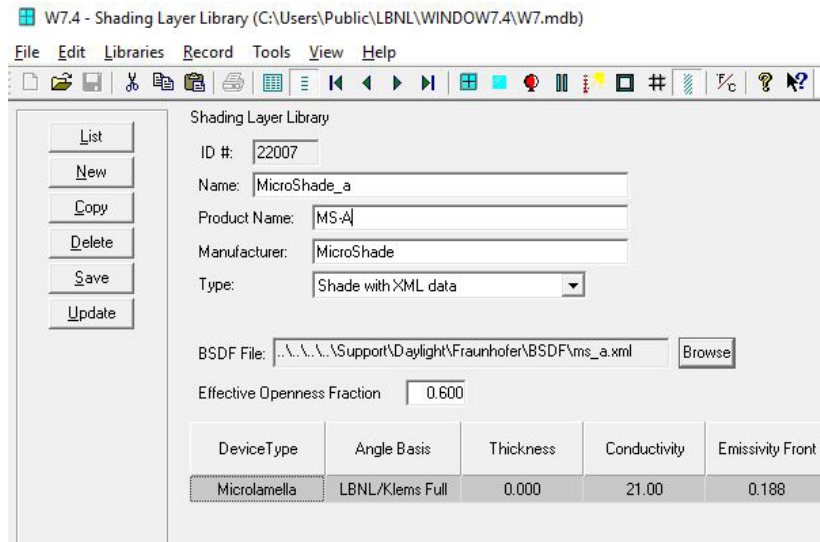

Figure 4: MicroShade[®] BSDF file has been imported.
- Click "Browse" and choose the MicroShade[®] BSDF file you want to import. Values will now appear in the table. See figure 4.